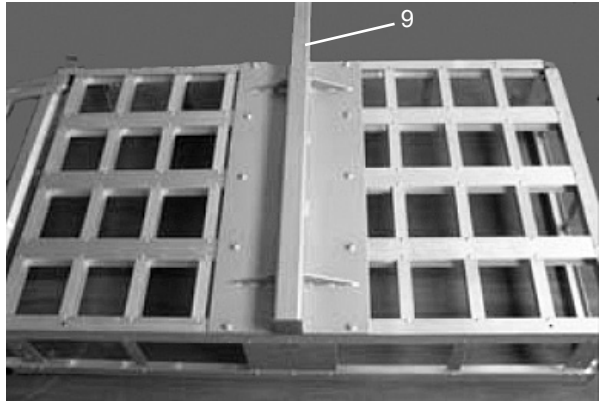

Figure 3
5. With assistance, flip over the Carrier Bed frame and use Medium Bolts (14), Washers (15, 23) and Nuts (16) to fasten the Hitch Bar (9) to the Carrier Bed's underside. See Figure 3.